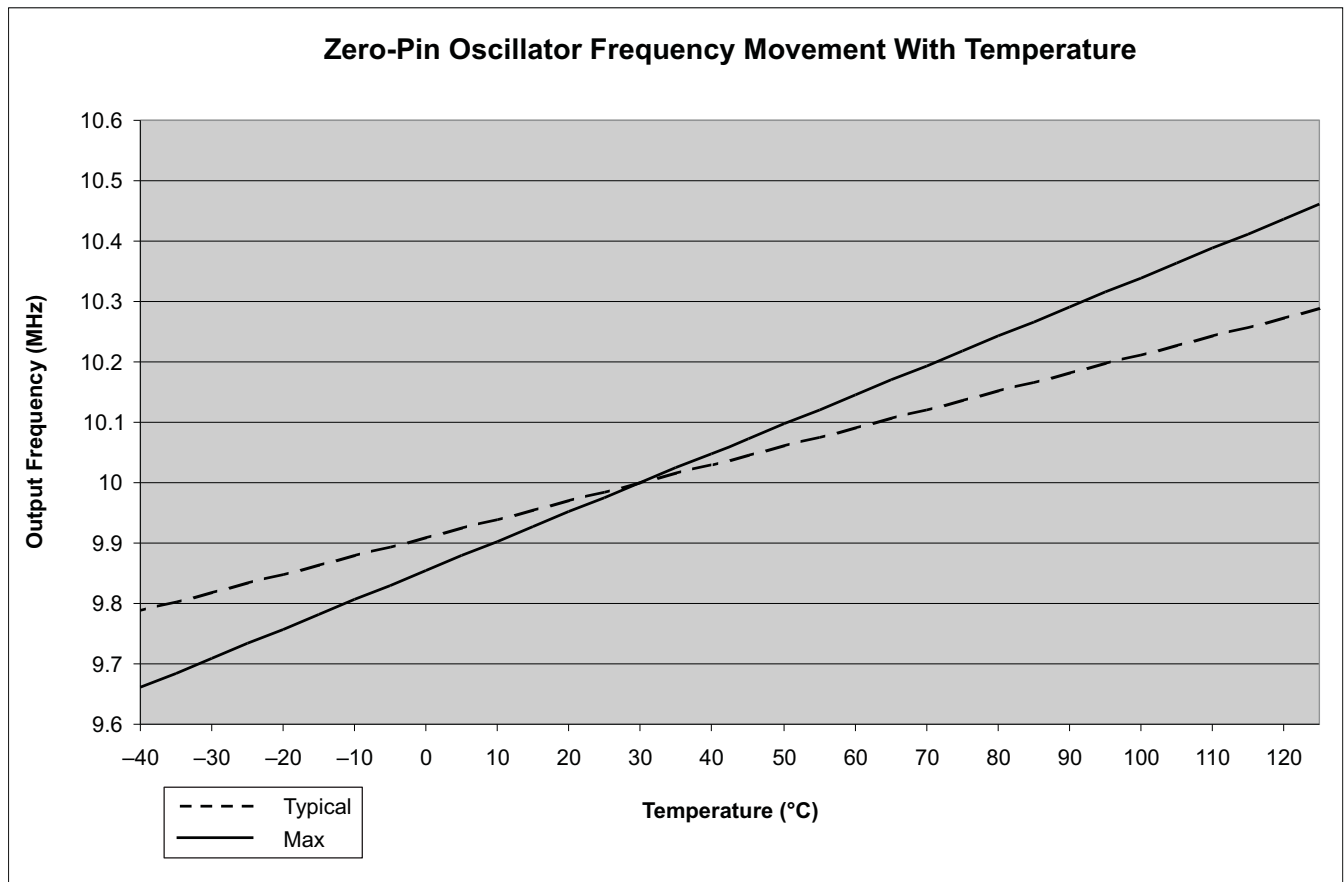

Figure 5-9. Zero-Pin Oscillator Frequency Movement With Temperature
- (1) Oscillator frequency will vary over temperature, see Figure 5-9. To compensate for oscillator temperature drift, see the Oscillator Compensation Guide and C2000Ware.
- (2) Frequency range ensured only when VREG is enabled, $\overline{\text{VREGENZ}} = V_{\text{SS}}$.
- (3) Output frequency of the internal oscillators follows the direction of both the temperature gradient and voltage (V_{DD}) gradient. For example: